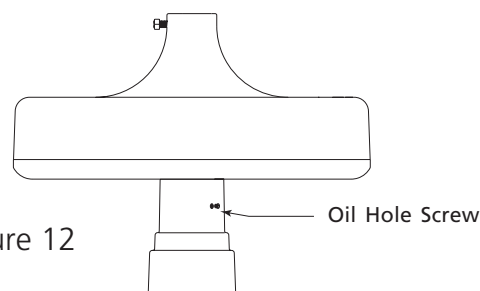

Figure 12
2. Unscrew the oil hole screw on the side of the switch housing. See Figure 12.